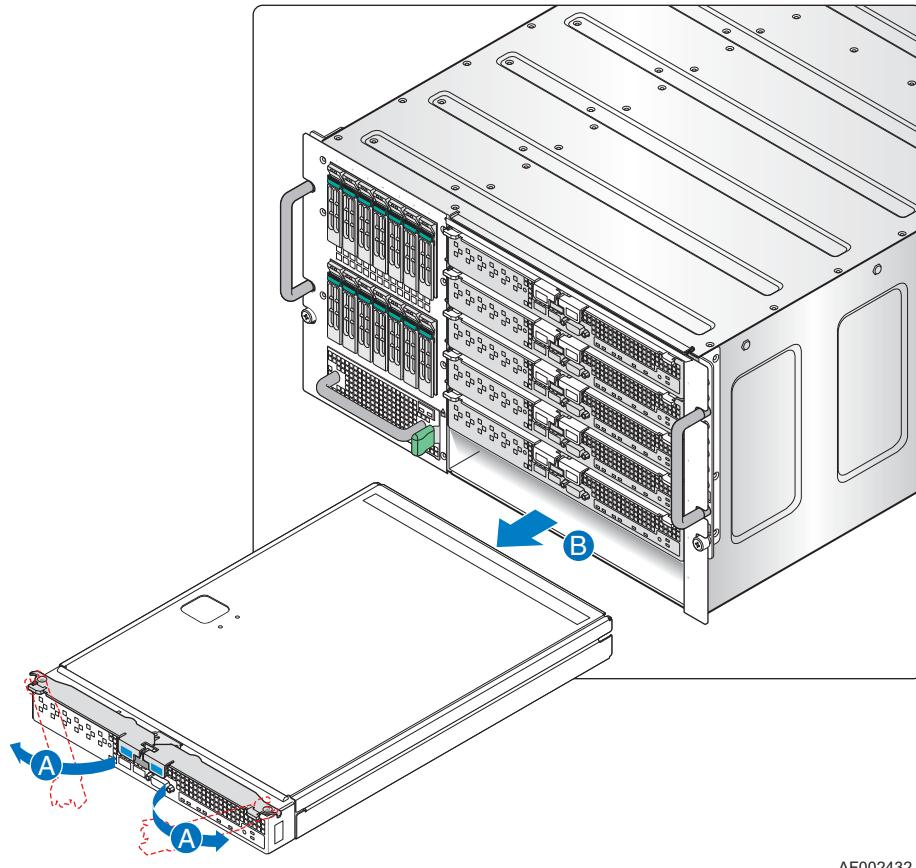

Figure 32. Removing an Intel® Compute Module
3. Open the two release handles at the front of the compute module (see letter “A” in Figure 32) and pull the compute module out of the server system (see letter “B” in Figure 32).